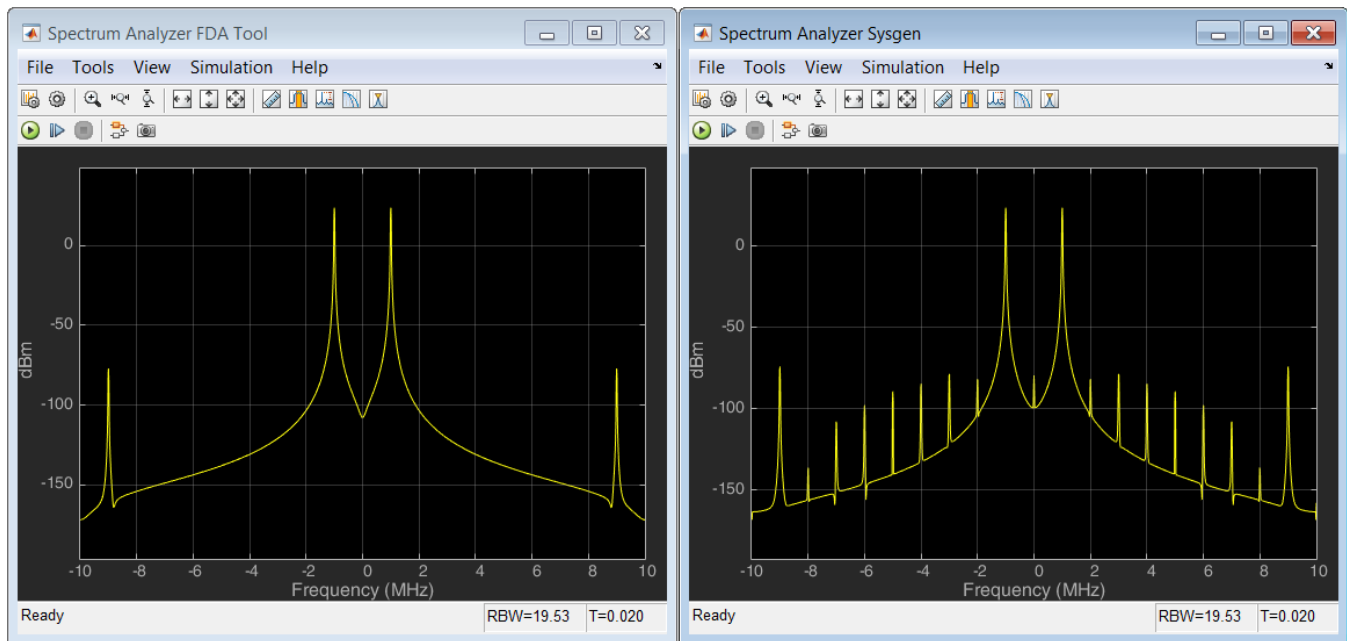

Figure 13: FIR Compiler Results
16. Click the **Run** simulation button  to simulate the design and view the results, as shown in Figure 13: FIR Compiler Results.